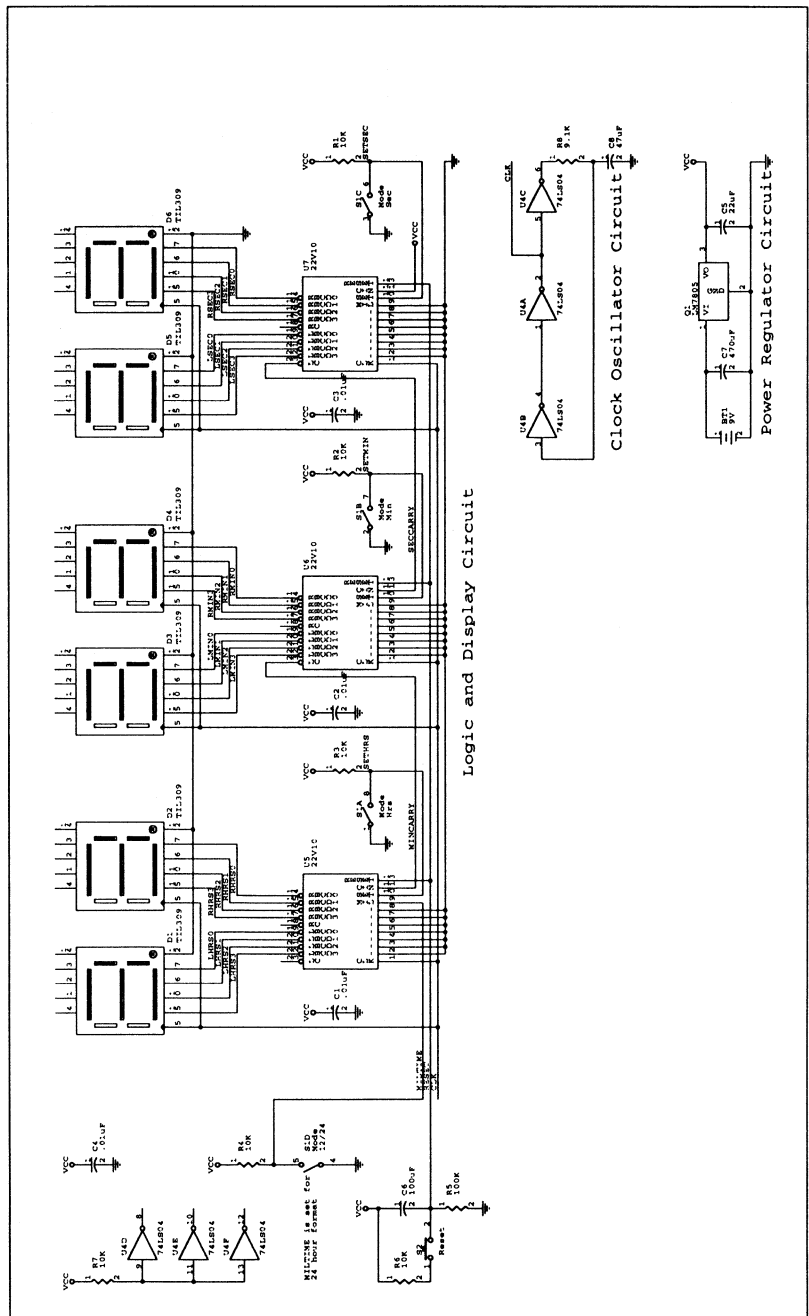

Figure 6-7. Completed TUTOR.SCH schematic.
Figure 6-7 on the next page shows how the schematic will look when you complete the remaining steps in this chapter.
Compare the schematic in figure 6-7 with the schematic you have captured so far. Notice that you only need to add a few parts and place a few more wires to have a functional circuit. You also need to edit the labels and other text in the schematic. The following sections describe how.
4. Using the same procedure as in steps 2 and 3, assign the values shown in figure 6-7 to the all parts on the schematic. Table 6-1 gives a list of the new values to edit (you have already edited the first item in this table). Notice that some of the parts require that you enter information into **1st Part field**.
The clock signal from the clock oscillator circuit is now logically connected to the wire to which you attached the CLK label. (see figure 6-7).
4. The "Label?" prompt returns each time you place a label. Label the following wires: MILTIME, RESET, SETHRS, MINCARRY, SETMIN, SECCARRY, and SETSEC. Refer to figure 6-7 for the location of these wires. Press <Esc> to dismiss the "Label?" prompt.
3. Move the pointer to the bottom wire directly below the leftmost clock segment, and place the label as shown in figure 6-7.
7. See figure 6-7 and place labels for the remaining left displays (**LMIN n** and **LSEC n**) by repeating steps 1 through 5.
5. Move the pointer to the top wire for the right hours display, and place the label as shown in figure 6-7.
8. See figure 6-7 and place labels for the remaining right displays (**RMIN n** and **RSEC n**) by repeating steps 3 through 6.